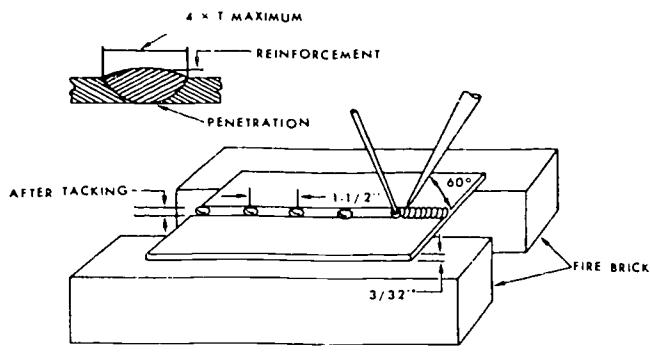

Figure 2-20. Setup for rigid butt joint.
**Rigid butt joint.** Figure 2-20 shows the proper setup for welding a rigid butt joint in the flat position. Place the joint edges in the same plane and support them with a material, like firebrick, that will not radiate the heat away from the plate you are welding. Tack weld rigid butt joints before welding to prevent the edges from being drawn together, making penetration impossible. The importance of making tack welds cannot be overemphasized. The proper spacing, size, and penetration of tack welds help to make satisfactory welds. Figure 2-20 shows the desired dimensions. The torch should be approximately perpendicular to the joint edges. Make certain that you melt the base metal before adding filler rod. Unless the penetration is 100